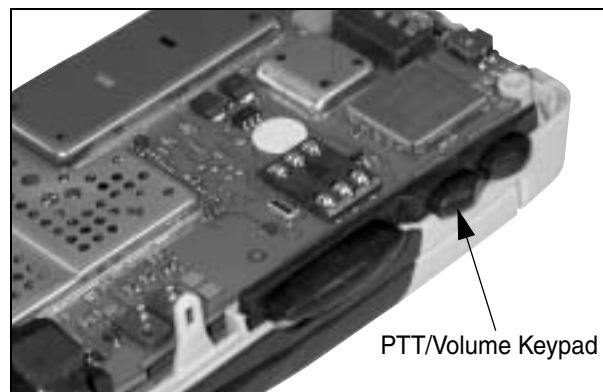

Figure 7-16.
1. Align PTT/Volume Keypad with its respective slot in the Front Housing after the Main/Keypad Board Assembly is installed (see Figure 7-16).